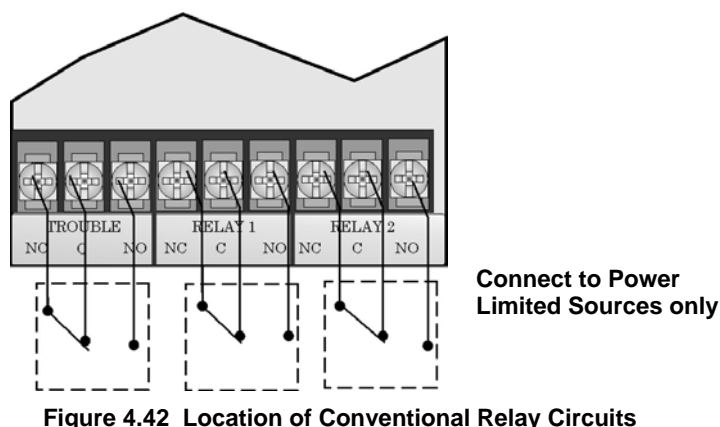

Figure 4.42 Location of Conventional Relay Circuits
1. Wire Relay 1 and/or Relay 2 as needed for your application. See Figure 4.42 for the location of the relay terminals.